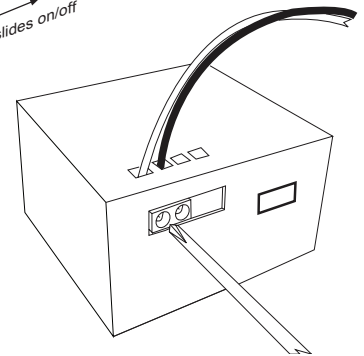

Fig. 5 Inserting thermostat wire.
Step 3: Run low voltage wire from the Home Automation System to the junction box. Fig. 5
Step 4: Insert the low voltage wire into the back of the transmitter securing each wire into separate tabs and tightening the screws to hold each wire. **NOTE:** Wires are not polarity sensitive. Gently tug the wires to ensure they are secure. See fig. 5.
- Check the wires connected to the transmitter. Ensure the wires are snug and not loose as shown in figure 5.